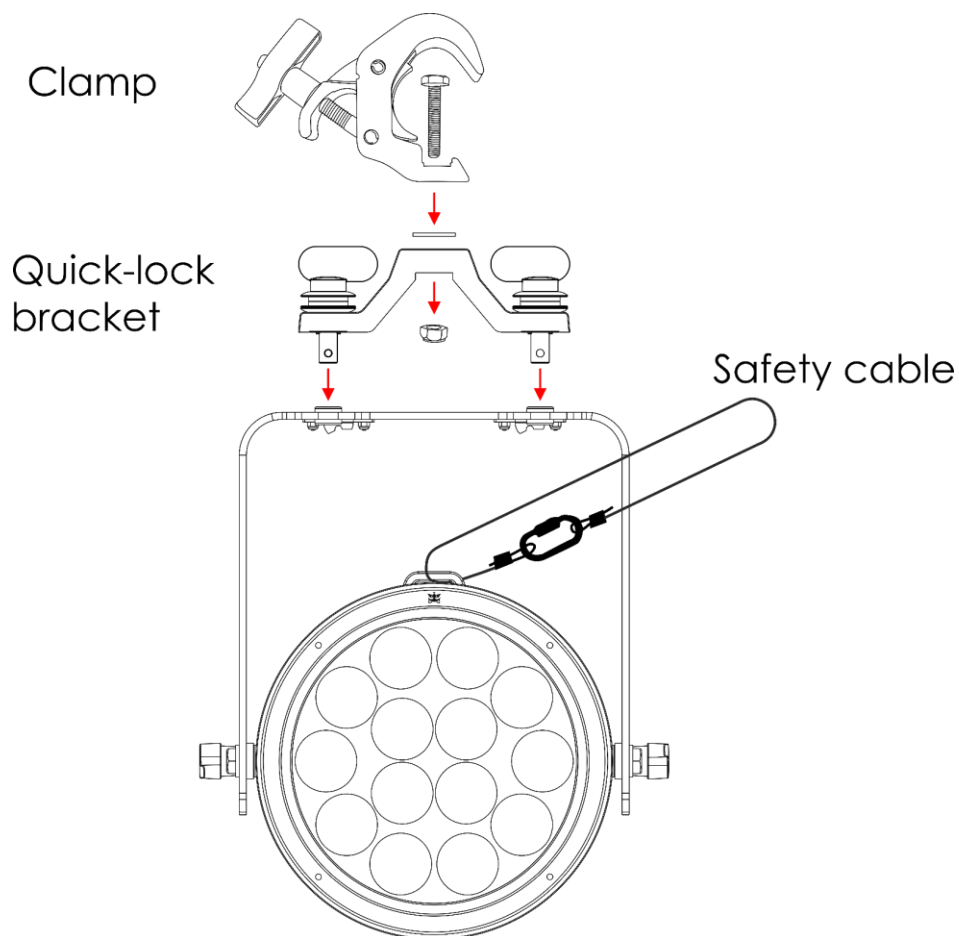

Fig. 05
- 01) Fasten the quick-lock bracket (Fig. 05).
- 02) Install the clamp, as shown in Fig. 05. Make sure that the clamp is suitable for attaching of the device to a truss.
- 04) Secure the device with a secondary suspension, for example a safety cable. Make sure that the secondary suspension can hold 10 times the weight of the device. If possible, the secondary suspension should be attached to a supporting structure independent of the primary suspension. Put the safety cable through the **safety eye (04)**, as shown in Fig. 05.